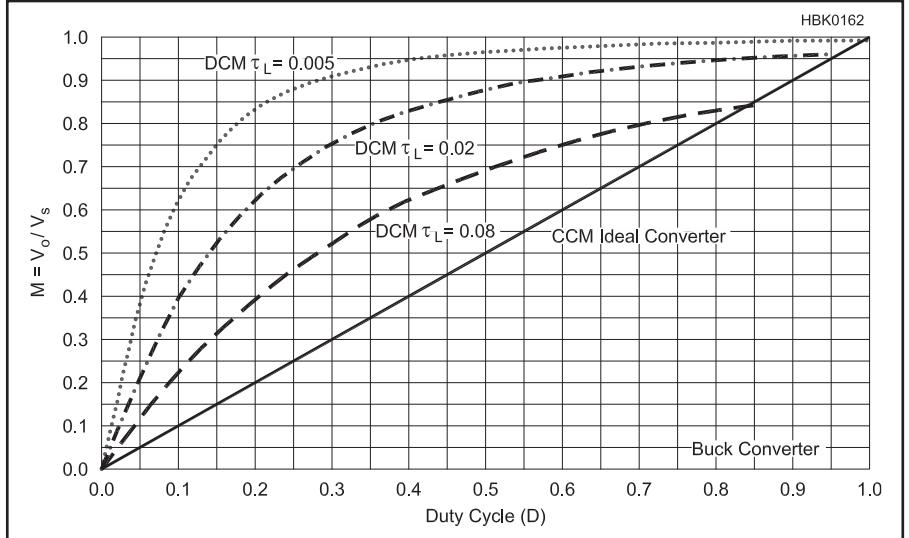

Fig 7.32 — Change in output voltage to input voltage ratio ($M=V_O/V_S$) as a function of switch duty cycle (D).
both small signal and large signal, is radically different between the two modes. Fig 7.32 shows the relationship between the duty cycle (D) of Q_1 and the ratio of the output voltage to the input voltage ($M=V_O/V_S$) as a function of τ_L in Fig 7.32:
τ_L is just a convenient way to make Fig 7.32 more general by tying together the variables L , R and f_s . Smaller values for τ_L correspond to lighter loads (larger values for R). As can be seen in Fig 7.32, for very light loads the higher values for D have little effect on the output/input voltage ratio. This is basically charging of the output capacitor (C_2) to the peak value of $V_1 \approx V_S$.